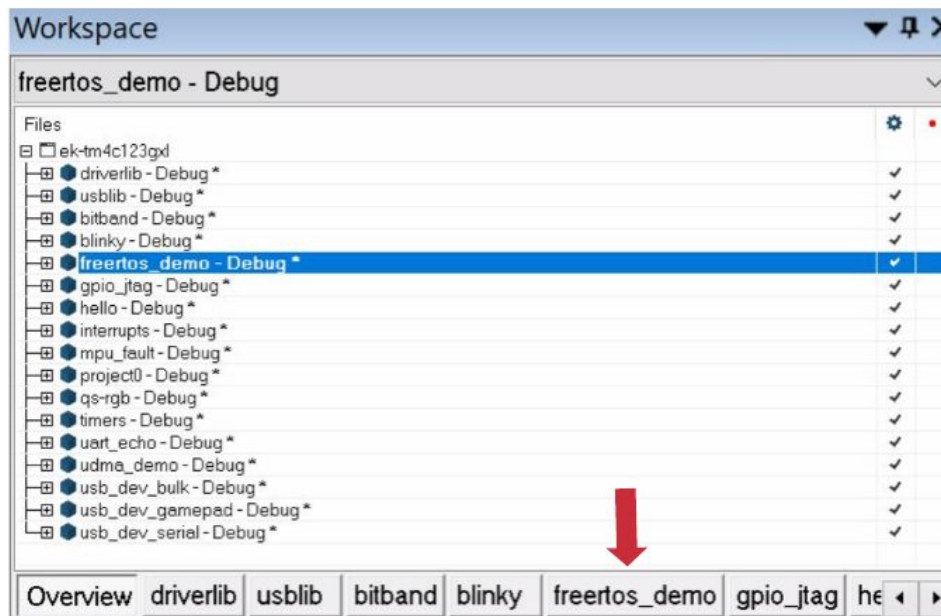

Figure 6: The ek-tm4c123gxl IAR Workspace Panel (with emphasis on the freertos\_demo project)
4. Once you have opened IAR, you'll find a list of subdirectories in the workspace panel. We only need the freertos\_demo directory for this task. Click on the freertos\_demo at the bottom of the workspace panel, as emphasized by the red arrow in Figure 6.